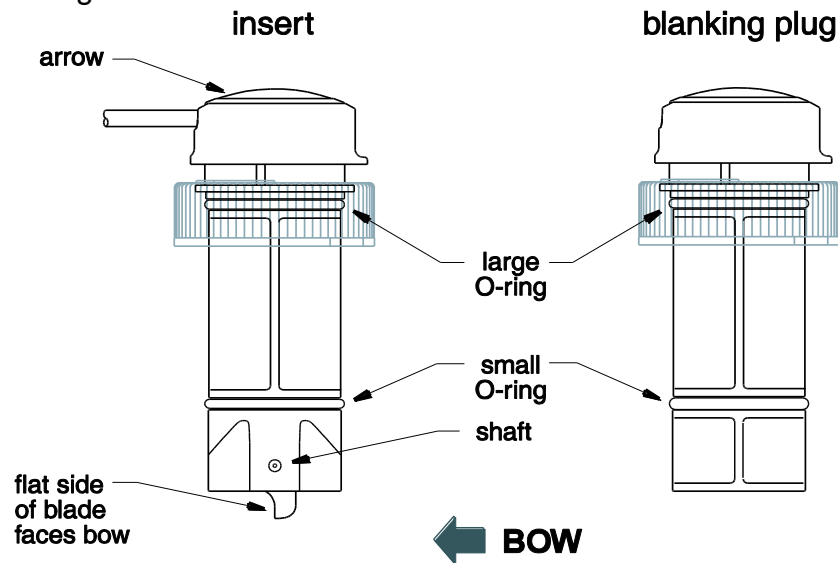

Figure 7 – Replacing the Paddlewheel and O-rings
1. Inspect the O-rings on the blanking plug (replace if necessary) and lubricate them with the silicone lubricant supplied or petroleum jelly (Vaseline®) (see Figure 7).
1. Remove the old paddlewheel shaft with needle-nose pliers (see Figure 7).